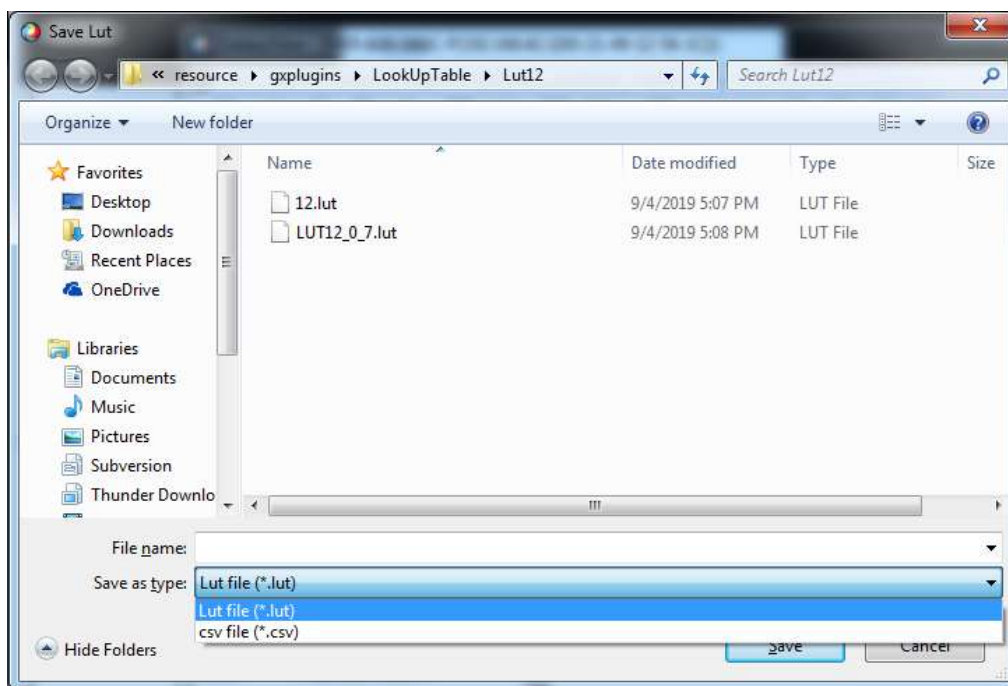

Figure 9-11 Save to file
1. When selecting "Save to File", the current Lut data can be saved to the file. The saved file contains two formats: Lut and csv, as shown in Figure 9-11: